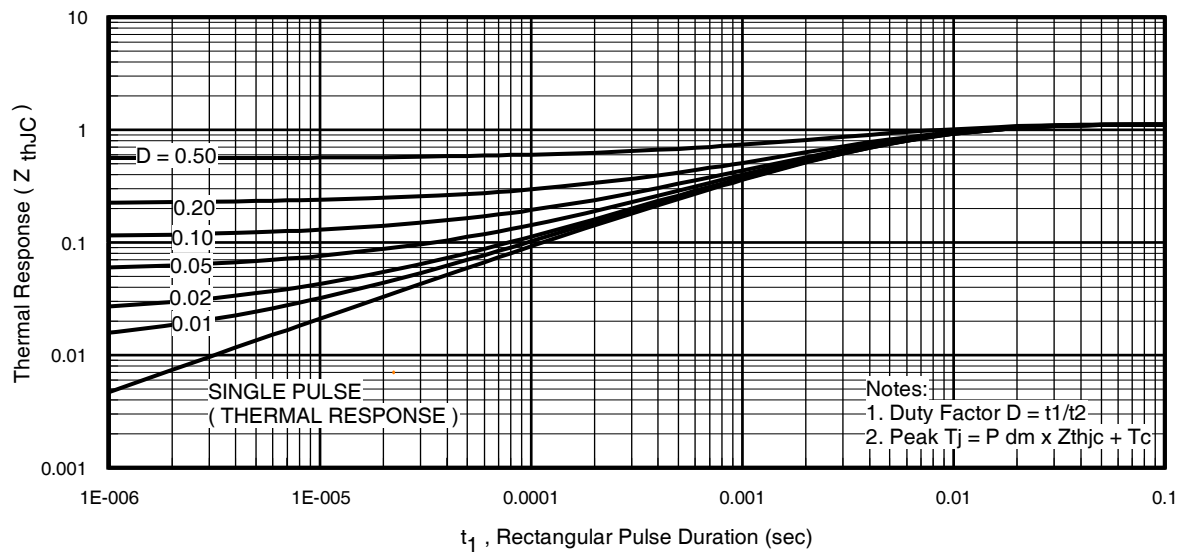
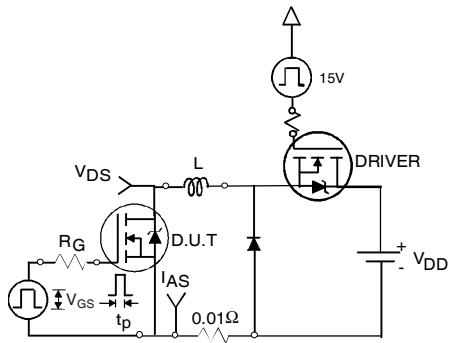

Fig 11. Maximum Effective Transient Thermal Impedance, Junction-to-Case
Fig 12a. Unclamped Inductive Test Circuit
- ① Repetitive rating; pulse width limited by max. junction temperature. (See fig. 11).
- ② Limited by T_{Jmax} , starting $T_J = 25^\circ\text{C}$, $L = 0.05mH$, $R_G = 25\Omega$, $I_{AS} = 75A$, $V_{GS} = 10V$. Part not recommended for use above this value.
- ③ Pulse width $\leq 1.0ms$; duty cycle $\leq 2\%$.
- ④ $C_{oss\text{ eff.}}$ is a fixed capacitance that gives the same charging time as C_{oss} while V_{DS} is rising from 0 to 80% V_{DSS} .
- ⑤ Limited by T_{Jmax} , see Fig.12a, 12b, 15, 16 for typical repetitive avalanche performance.
- ⑥ This value determined from sample failure population, starting $T_J = 25^\circ\text{C}$, $L = 0.05mH$, $R_G = 25\Omega$, $I_{AS} = 75A$, $V_{GS} = 10V$.
- ⑦ This is only applied to TO-220AB package.
- ⑧ This is applied to D²Pak, when mounted on 1" square PCB (FR-4 or G-10 Material). For recommended footprint and soldering techniques refer to application note #AN-994.
- ⑨ R_θ is measured at T_J approximately 90°C .
3. Equation below based on circuit and waveforms shown in Figures 12a, 12b.
$Z_{thJC}(D, t_{av})$ = Transient thermal resistance, see figure 11)